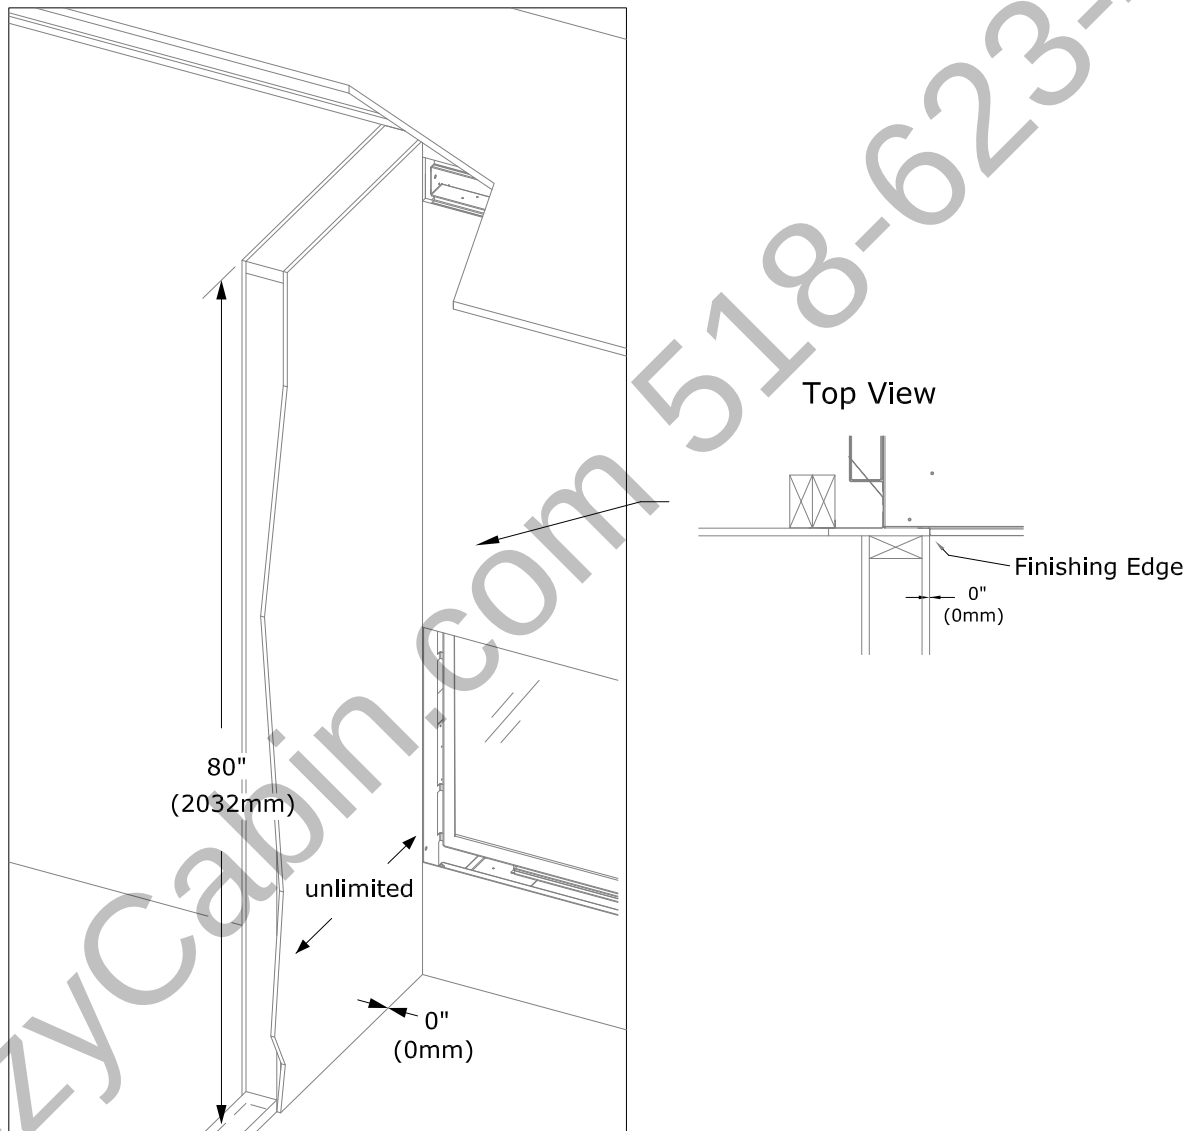

Figure 3.12 - Nordik 60TL Combustible Sidewall Requirements
- Figure 3.12 shows the unlimited sidewall projection where it is the minimum of 0" (0mm) away from the side fireplace finishing edge. This places the sidewall flush with the KZK plenum opening and flush with the side fireplace finishing edge.